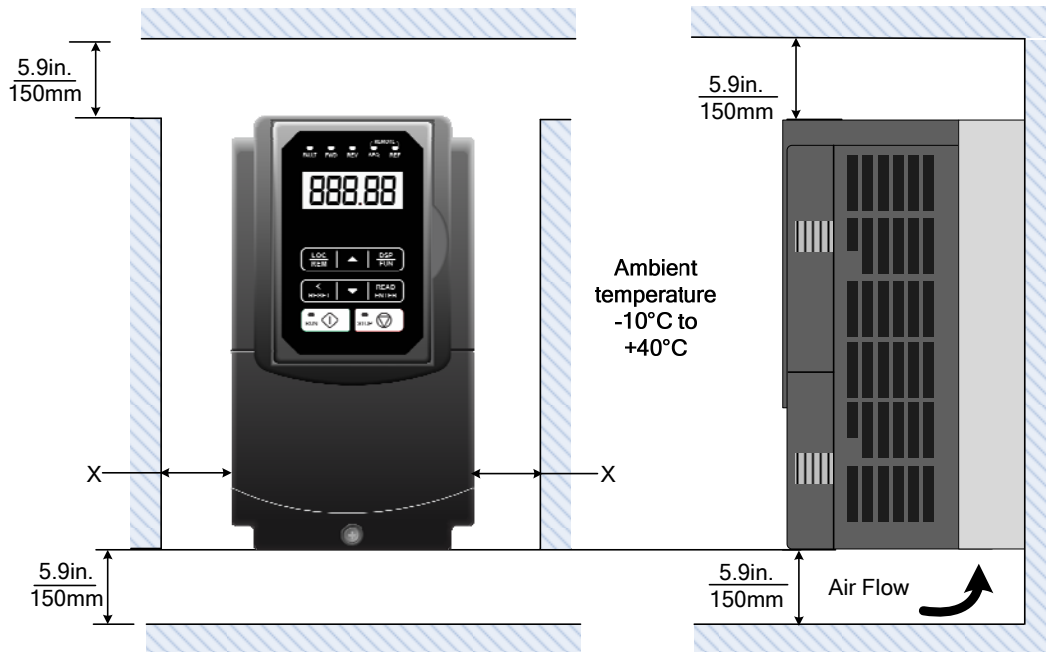

Fig 3.2.1: F510 Installation space
- When installing the inverter, ensure that inverter is installed in upright position (vertical direction) and there is adequate space around the unit to allow normal heat dissipation as per the following Fig. 3.2.1